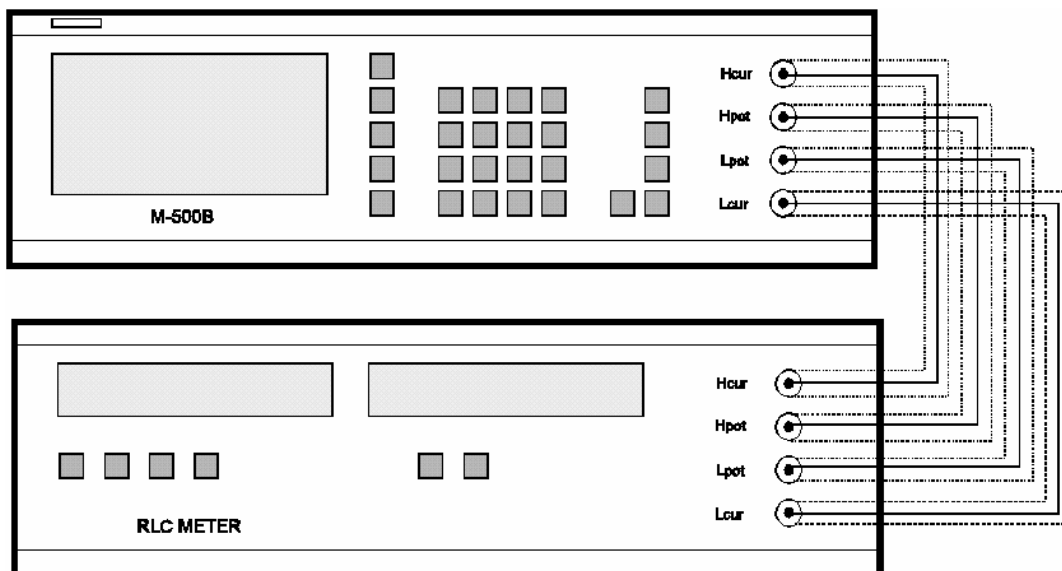

Fig. 9. Impedance calibrator connected to comparator RLC-meter
2. Connect to the RLC-meter Impedance calibrator according Fig 9. On the Impedance calibrator select desired type of impedance (R, C, L), range and frequency.